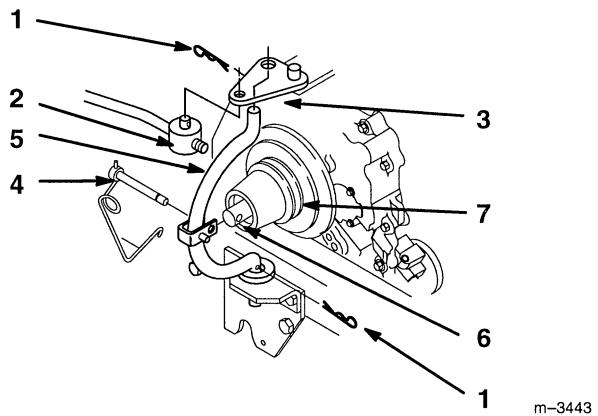

Figure 13
3. Remove hairpin cotters from trunnion and bottom of yoke (Fig. 13).
4. Unlatch and remove clevis pin that secures yoke assembly to clutch shaft. Pivot yoke out and forward to remove from clutch shaft and engagement plate (Fig. 13).
5. Place belt in pulley groove, going between clutch yoke and engagement plate (Fig. 13).
6. Assemble yoke and engagement plate and attach clevis pin, trunnion and hairpin cotters to secure (Fig. 13).